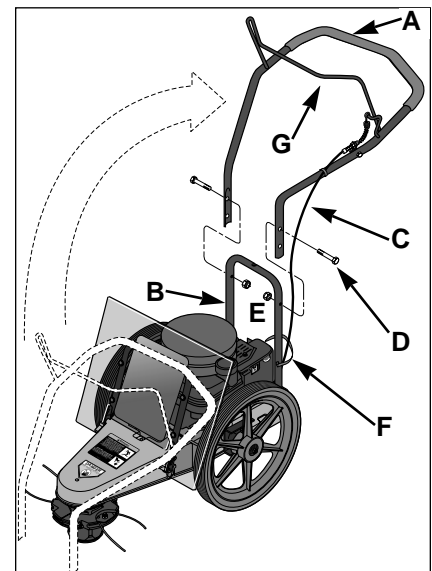

Figure 2-2: Handlebar installation.
- Cut the plastic tie and remove the tape that secures the control bail (G, Fig. 2-2) to the handlebar (A).
- Using care not to pinch the attached cable, lift the handlebars (A, Fig. 2-2) to rear of the unit and align the handlebar ends with the handlebar support (B).
- Route the cable (C, Fig. 2-2) to the outside of the handlebars.
- Select either the low or high height setting holes (most people prefer the low setting) in the handlebar legs and attach the handlebars with the two screws (D) and locknuts (E) from the hardware bag. Use two 1/2" wrenches.
- Use the cable tie (F, Fig. 2-2) from the hardware bag to secure cable (C) to handlebar at the location shown.